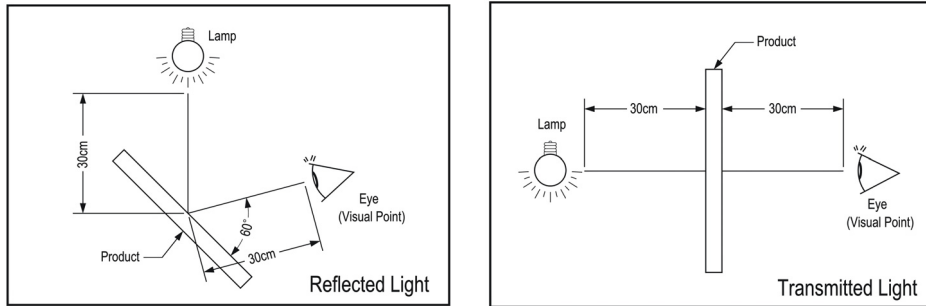

Figure 11-1
(2)The inspection was performed with one 17W fluorescent lamp lighting from back or side. The panel was placed 30cm away from eyes. (Figure 11-1)